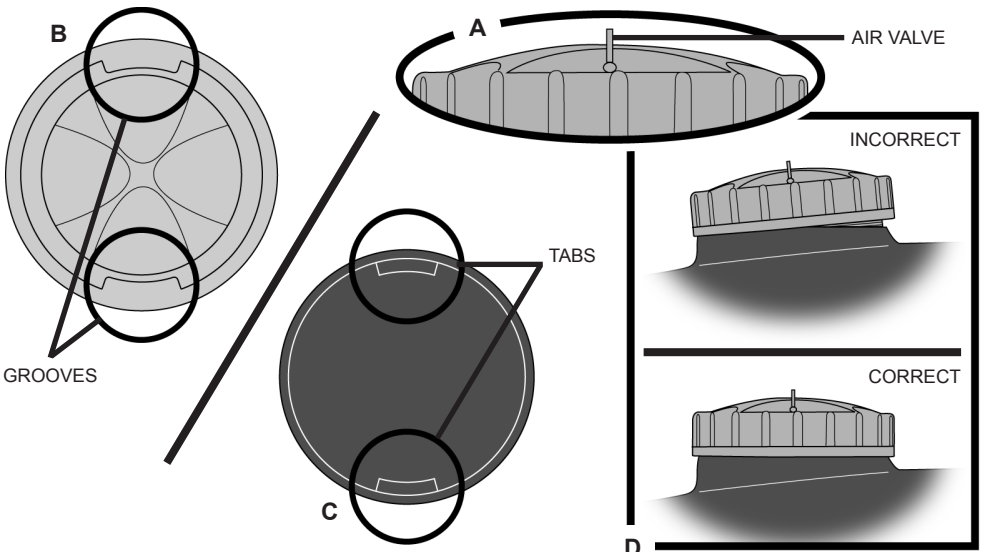

FIGURE 8
NOTE: Do not remove or cut small rubber air valve on top of Water Tank Cap (FIGURE 8-A). Do not turn unit upside-down when Water Tank is full - a small amount of water may leak out.
4. Replace Water Tank Cap so that thread grooves on bottom of Cap (FIGURE 8-B) align with tabs inside Fill Hole (FIGURE 8-C). Press Water Tank Cap down so that it sits flush with top of Fill Hole (FIGURE 8-D). Rotate one quarter turn in clockwise direction (as indicated by “lock” illustration on Cap) to lock it in place.